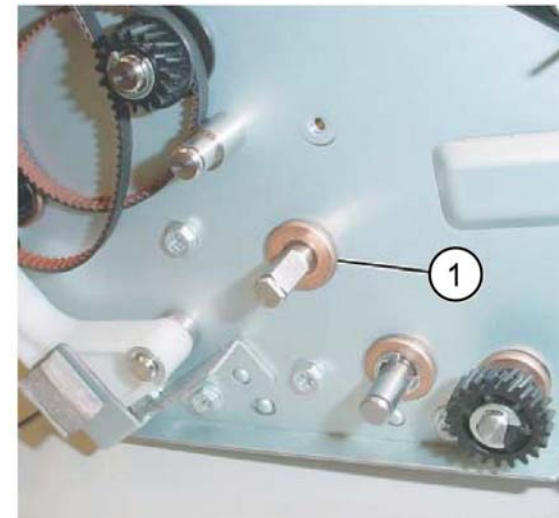

Figure 3 Bearing removal
5. Remove the bearing, Figure 3.